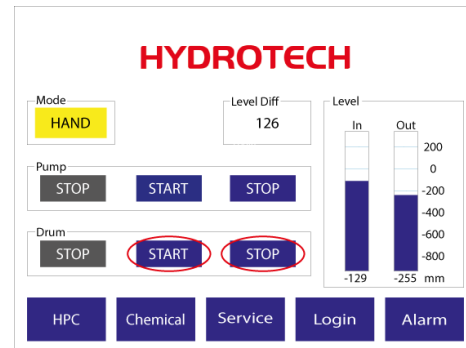

Figure 6.14 Main menu in operator manual.
2. Select “Start” for the drum on the operator panel, see Figure 6.14.